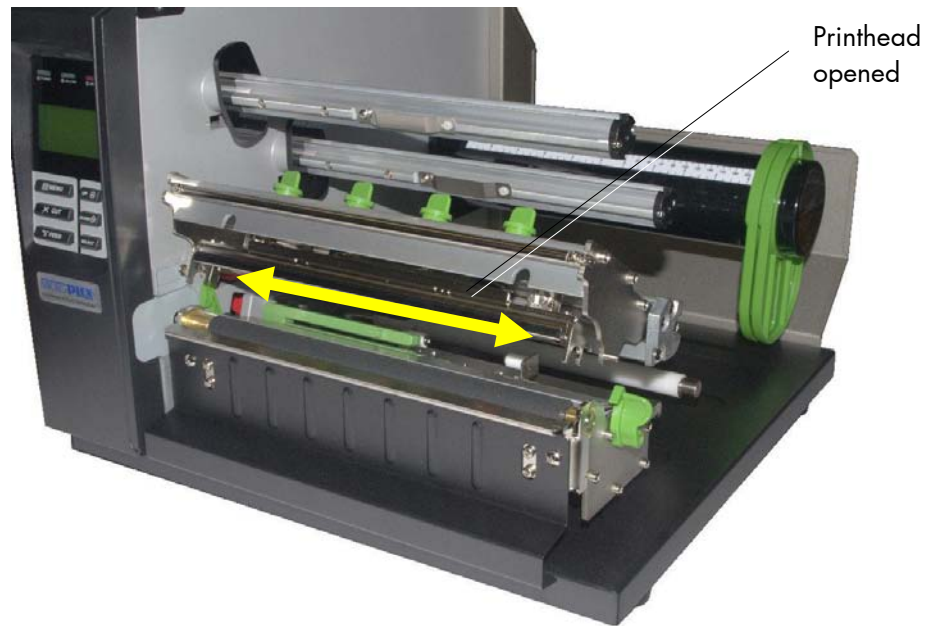

Fig. 7.1.2.a Cleaning the printhead
- Move the cloth or pen along the print area of the printhead (see figure 7.1.2.a). This working step requires light pressure and has to be repeated several times.
- Use a soft lint-free cloth, moisten it with spirit and then use it to wipe several times along the print area of the printhead (compare figure 7.1.2.a).